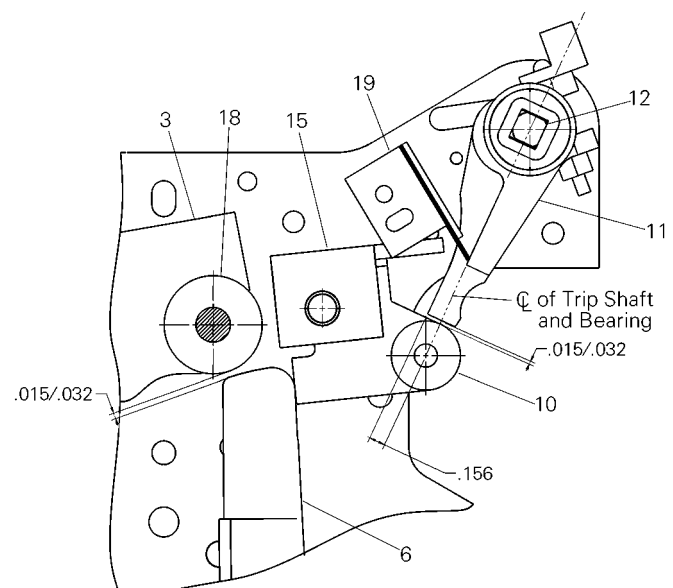

Figure 5-15. Latch, bearing, and prop adjustment.
As shown in Figure 5-15, the gap between the trip latch (11) and the roller (10) should be between 0.015 and 0.032 inch. To adjust this dimension, loosen the nut (20) and turn the Allen screw (7).
The center line of the trip latch (11) is 0.156 inch from the edge, as shown in Figure 5-15.
As shown in Figure 5-15, the center line of the trip latch (11) should pass through the center of the roller (10). To adjust this dimension, loosen the screws retaining the latch buffer (19) to the mechanism frame, then reposition the latch with respect to the roller.
As shown in Figure 5-15, the gap between the bearing (18) and the prop (6) should be between 0.015 and 0.032 inch. To adjust this dimension, turn the adjusting nut (5) to expand or compress the reset spring (4).